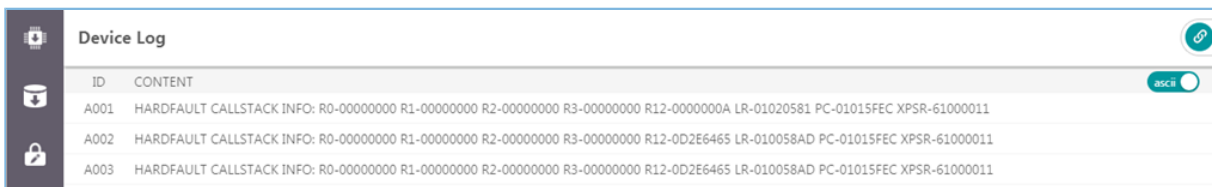

Figure 3-45 Device logs in ASCII characters
- : The device logs are displayed by ASCII character as shown in Figure 3-45.